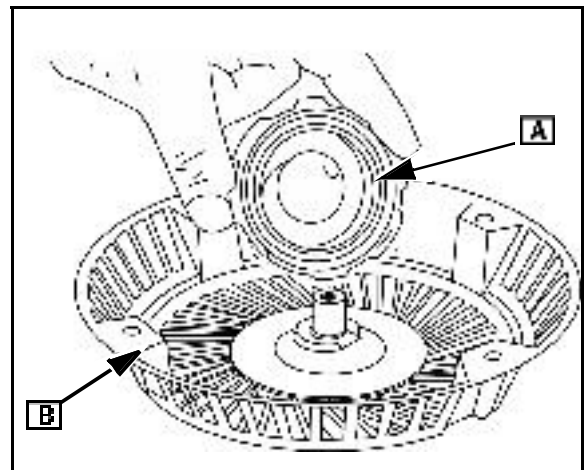

Fig. 13
11. Remove spring and cup (A) from starter housing (B) Fig. 13) or pulley.